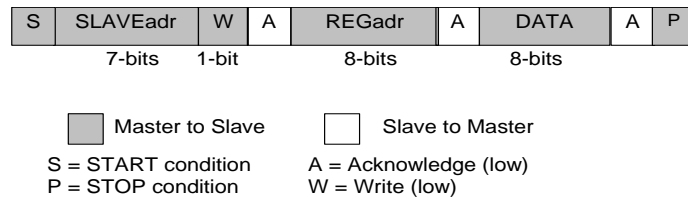
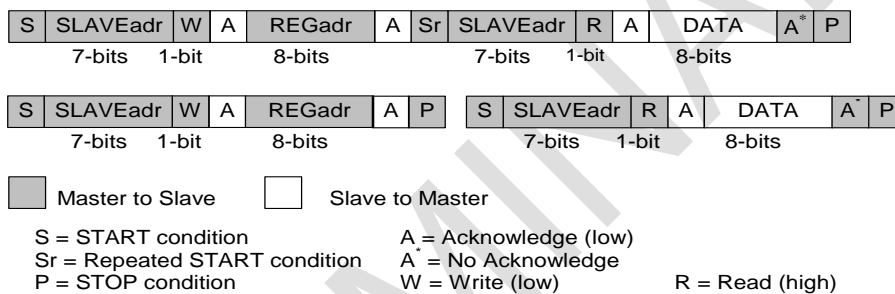

Figure 14: I²C Byte Write (SDA Line)
Figure 15: I²C Byte Read (SDA Line) Examples
The I²C bus is monitored for a valid slave address whenever the interface is enabled. It responds immediately when it receives its own slave address. The acknowledge is done by pulling the SDA line low during the following clock cycle (white blocks marked with A in Figure 14 and Figure 15).
The protocol for a register write from master to slave consists of a START condition, a slave address with read/write bit, and the eight-bit register address followed by eight bits of data, terminated by a STOP condition. DA9131 responds to all bytes with acknowledge (A), see Figure 14.
When the host reads data from a register it first has to write to DA9131 with the target register address and then read from DA9131 with a repeated START, or alternatively a second START, condition. After receiving the data, the host sends no acknowledge (A*) and terminates the transmission with a STOP condition, see Figure 15.